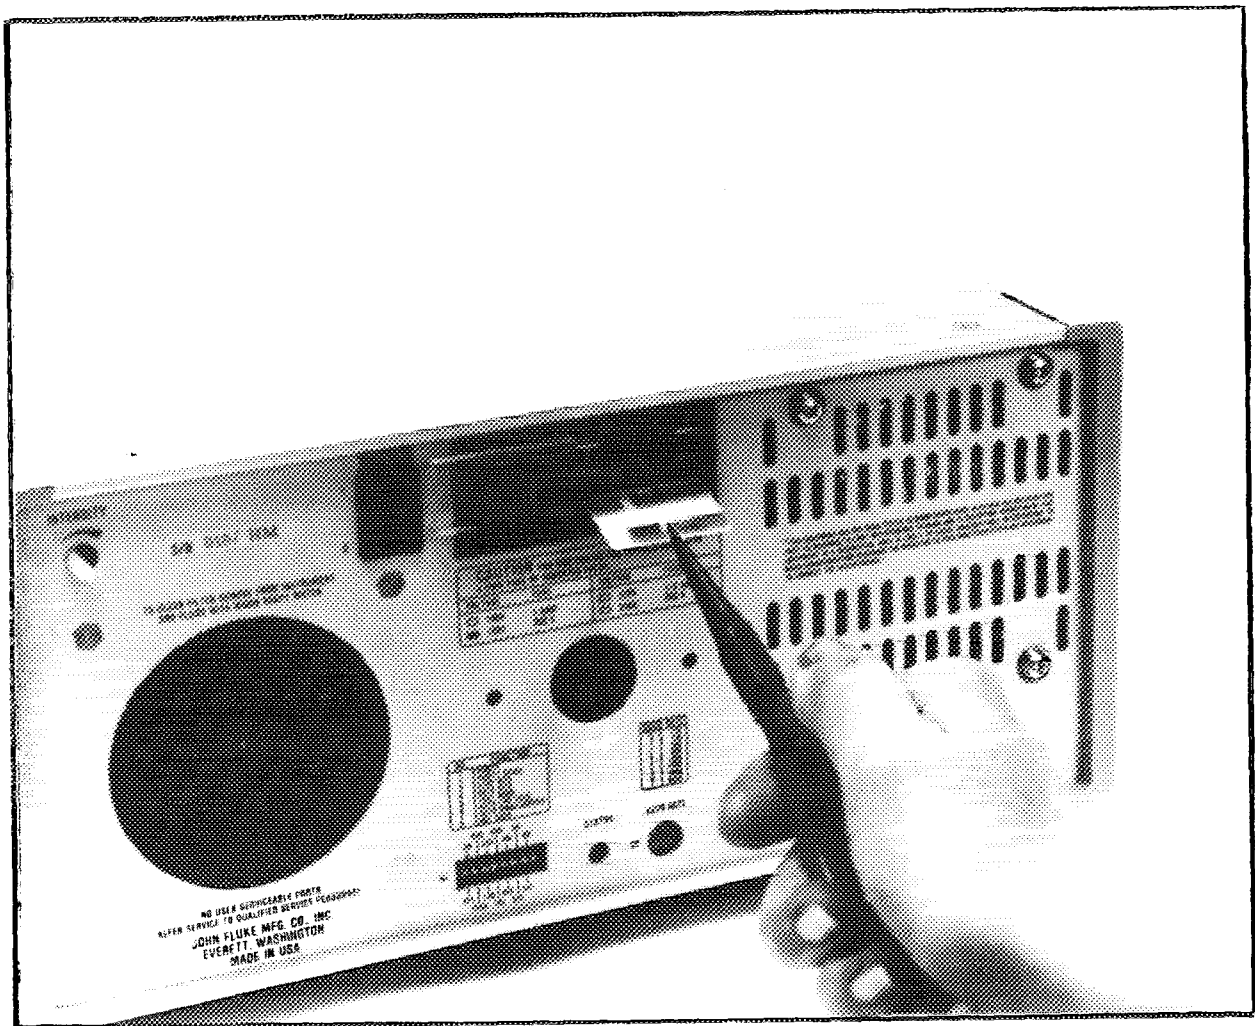

Figure 2-2. Line Power Voltage Selection
To select the line power voltage, perform the following procedure on the 1780A rear panel using Figure 2-2 for reference:
5. Position the free end of the pcb into the slot so that the selected voltage is on top and to the left (normal reading position). Figure 2-2 shows the pcb in the 120V position.